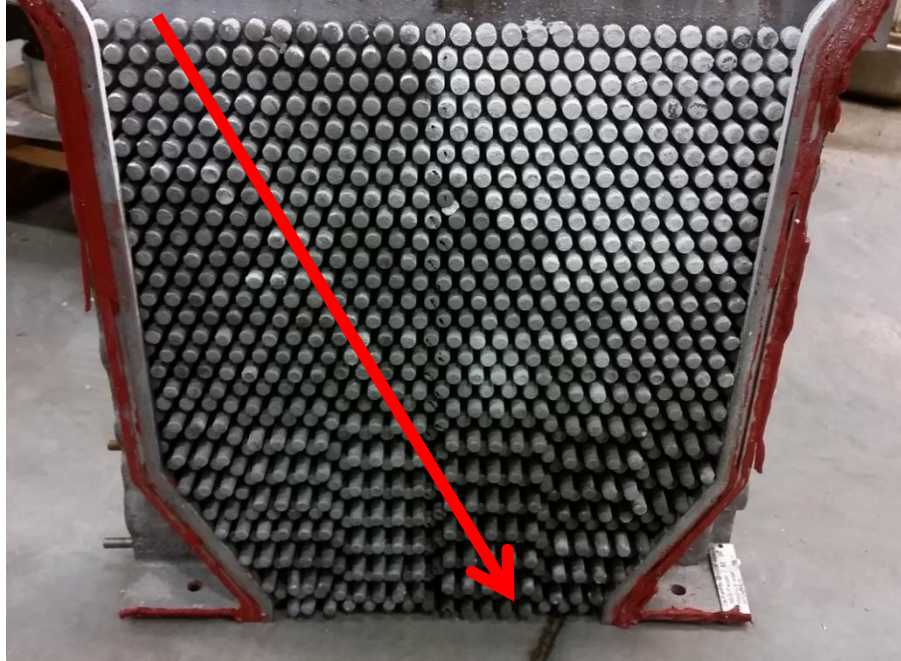

Figure 8-27: Angle of Cleaning Instrument – Heat Exchanger Cut-Away View
3. The most crucial area to clean is the bottom of the heat exchanger, where the heat exchanger pins are the closest. This can be done by removing one of the exhaust manifold “blanks” and using a pressure washer with angled nozzle to spray upwards. Make sure to cover the top of the heat exchanger with a tarp to prevent water from spraying out of the top of the unit. To clean this area manually, insert your cleaning instrument at an angle between the pins, as shown in Figure 8-27. Be sure to clean the space between each pin.